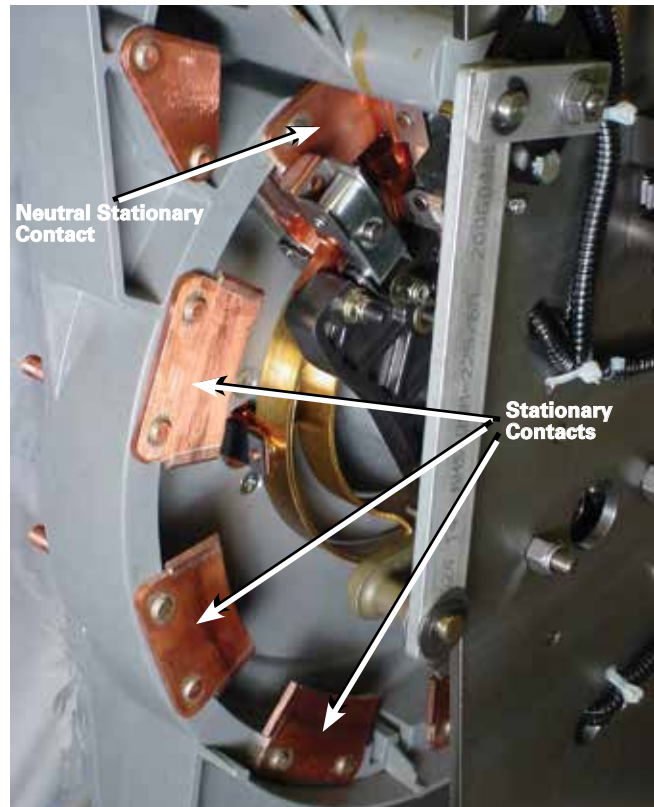

Figure 78. Stationary contacts.
1. Each QD5 tap-changer has nine main stationary contacts. Of these, eight are tap contacts and one is the neutral stationary contact. See Figure 78.